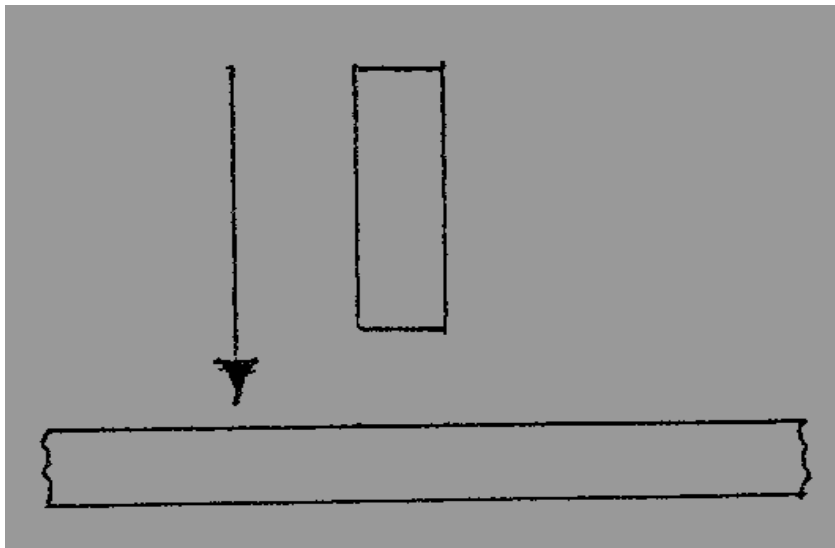

FIGURE 3
- 3.3 FIGURE 3, DIAGRAM SHEET B (attached), shows two plates that have to be welded together.
- Make a freehand drawing of a device made of scrap metal available in the workshop to bring the two plates closer together for welding. (4)